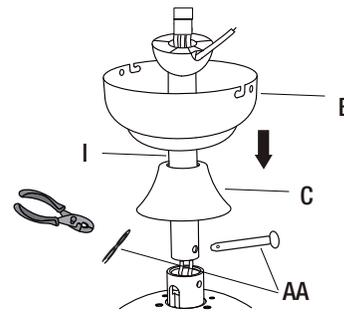

Figure 5
- Remove the split pin and pivot pin (AA) from the loose part bag and set them aside for later restoration.
- Place the downrod assembly (I) through the ceiling canopy (B) and hanger cover (C). (Figure 5).
- Carefully feed the fan wires up through the downrod assembly (I).